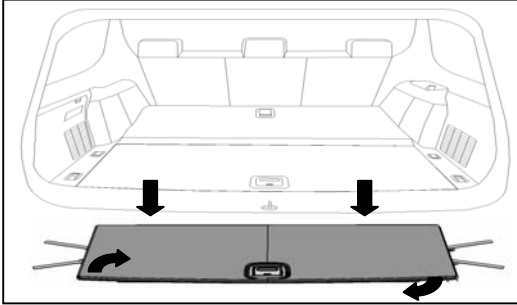

Figure 8
- a) Remove load floor / organizer from vehicle and flip it over side-to-side so that the organizer is up and the load floor latch is still closest to the rear of the vehicle. Place it back in the vehicle (see figure 8).